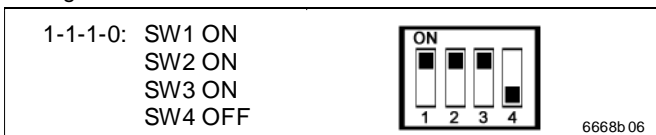

Fig. 34 DIP switch – configuration mode
- ➔ Set the DIP switches 12 (see view Fig. 2) as shown in Fig. 34: